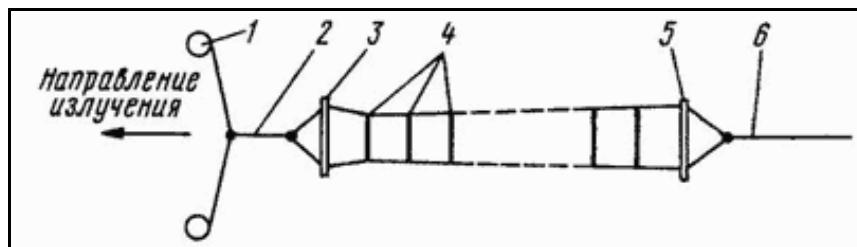

Figure 8
Pointing to the desired station signal can be done according to Figure 8 holding EA by hand at the frame (5) or rope (6) behind the reflector for minimum body influence on EA.